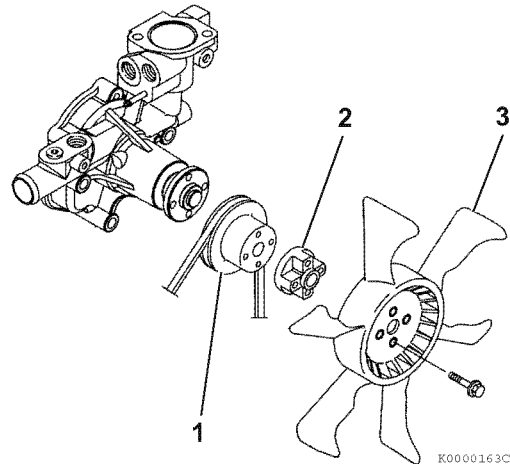

Figure 9-31
5. Reinstall the engine coolant pump V-pulley (Figure 9-31, (1)), spacer (Figure 9-31, (2)), engine cooling fan (Figure 9-31, (3)) and engine cooling fan guard (if equipped).